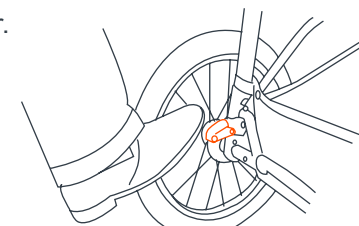

Fig. 11
- 11) •** To engage brakes, apply light downward pressure to the brake lever located on each rear wheel. The stroller may require slight forward or rearward movement in order to line up the teeth on the brake with each wheel brake cluster (Fig. 11).